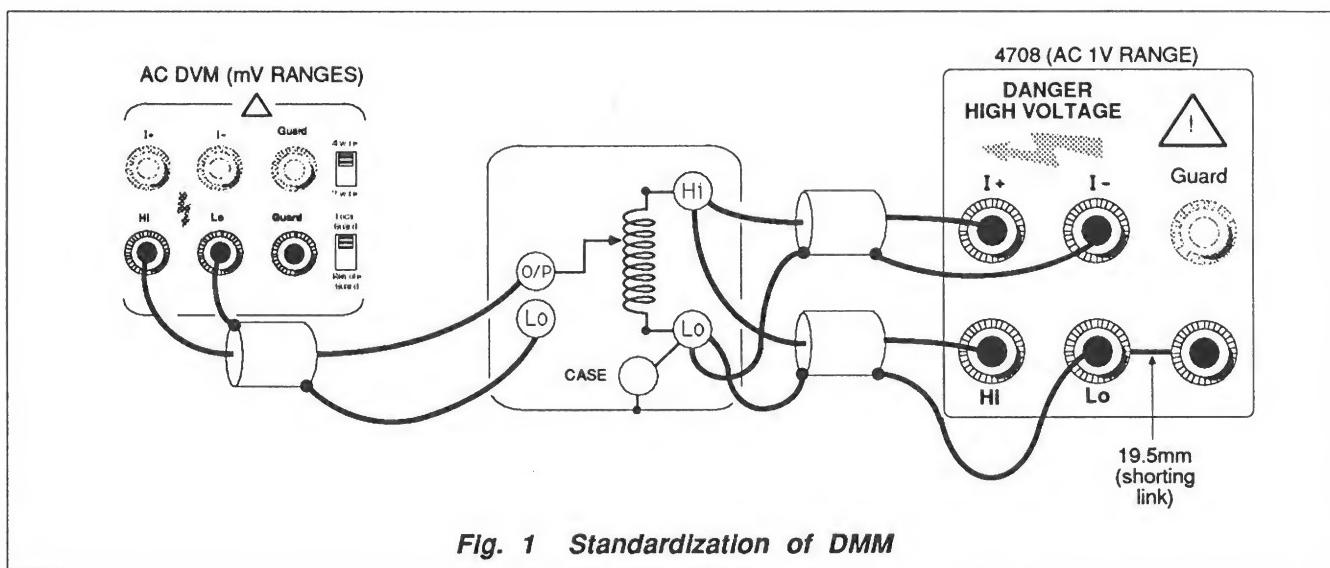

Fig. 1 Standardization of DMM
- a. With OUTPUT OFF, connect the 4708, IVD and DMM for Standardization (Fig. 1). Set the IVD ratio to 1:10, the AC DMM to measure 100mV.